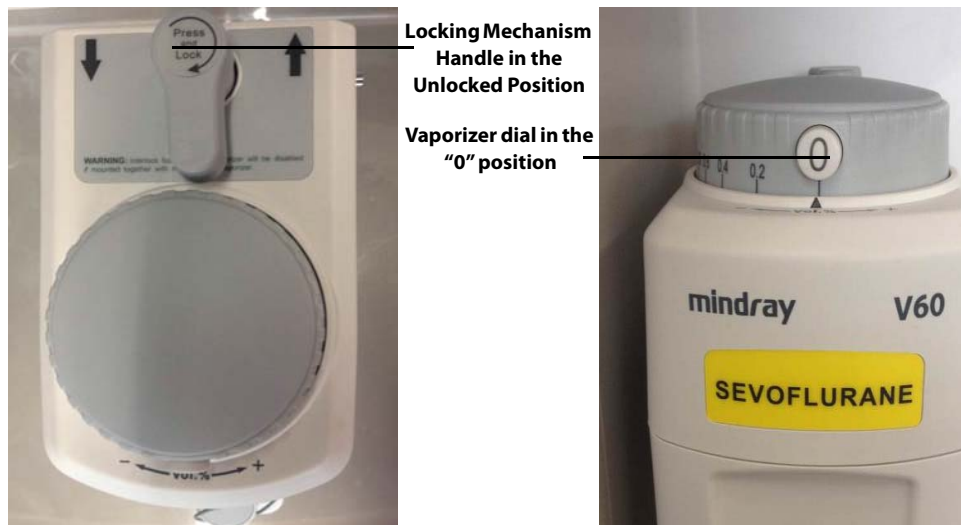

FIGURE 2-2 Vaporizer, Unlocked
2. Align the new vaporizer over the valve cartridges of the mounting bar, slightly tilting back the vaporizer. Hang the vaporizer on the mounting bar as shown in FIGURE 2-2. Ensure that the locking mechanism handle is in the unlocked position. Ensure that the dial is in the "0" (Transport) position or equivalent, depending upon the vaporizer manufacturer's Instructions For Use.